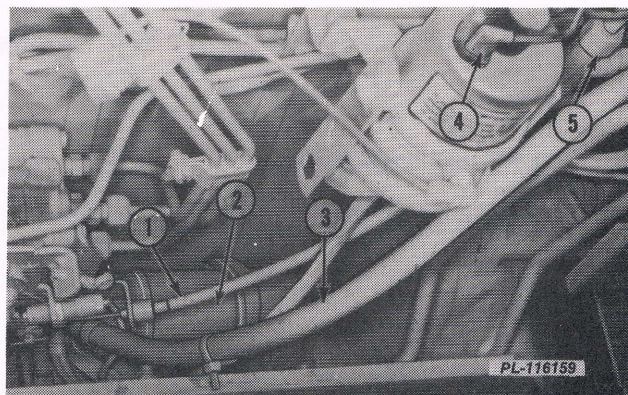

Fig. 4
16. Disconnect the wires at the cranking motor solenoid (2). Remove the wiring harness (3) from the clips and move the harness to the rear. See Fig. 4.
18. Disconnect the fuel shut off (1) cable at the injection pump. See Fig. 4.
19. Disconnect the wire to the ether injector (4). Disconnect the fuel return line at the "T" (5) and plug and cap the lines. See Fig. 4.